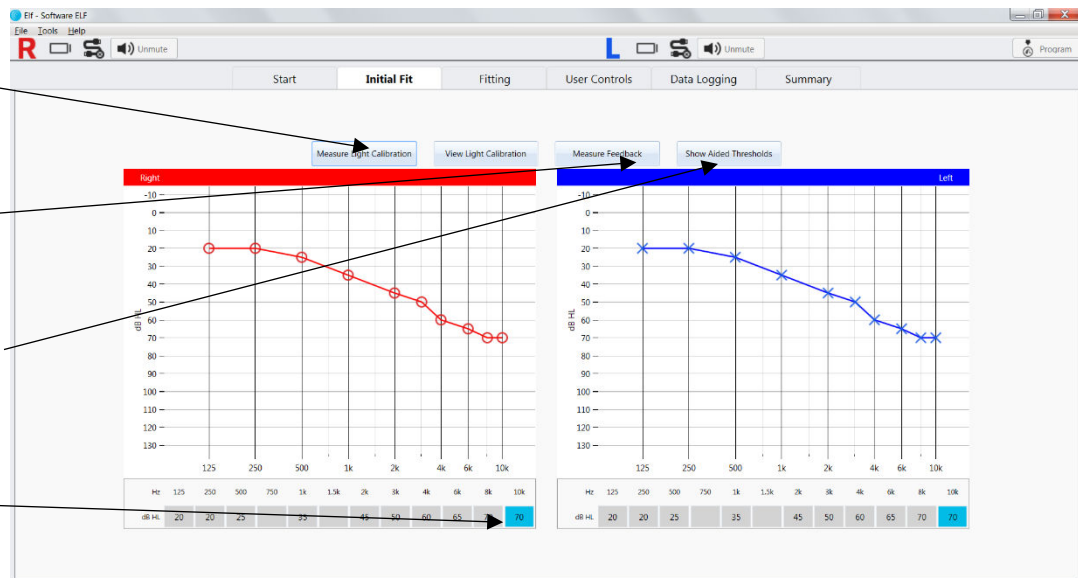

Figure 11: Initial Fit screen
- **Initial Fit:** Enter 10 kHz audiometric data point (when available), measure and view light calibration settings, run feedback measurement and display aided threshold data (Figure 11).